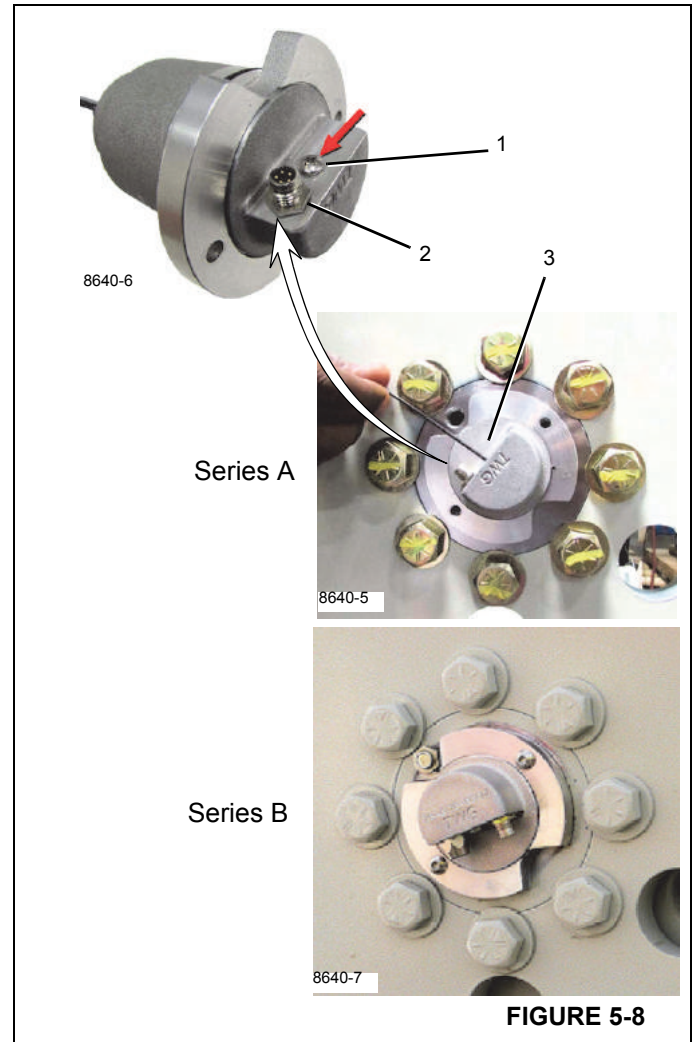

FIGURE 5-8
2. Remove power from the MWI by disconnecting the DRI cable (2, Figure 5-8).
3. Remove the sealed Hoist Monitoring System (HMS) programming button cover screw (1, Figure 5-8) on the DRI.
4. Push and gently hold the programming button (3, Figure 5-8) and return power to the MWI by reconnecting the DRI cable.
NOTE: Holding the button for longer than 15 seconds puts the HMS into Shipping Mode for Series A units. (See Figure 5-8). See Shipping Mode for more information.
- NOTE:** Failure to replace the programming screw (1, Figure 5-8) could effect the operation of the MWI.
3. Remove the programming button cover screw (1, Figure 5-8).